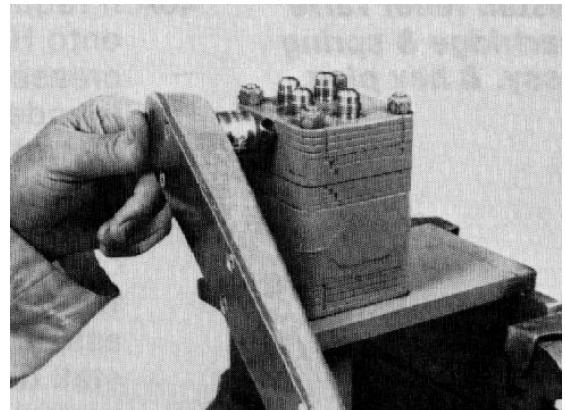

Figure 110
45. Tighten the plug to a torque of 8 - 12 ft-lb (11 - 16 Nm) (Fig. 110).